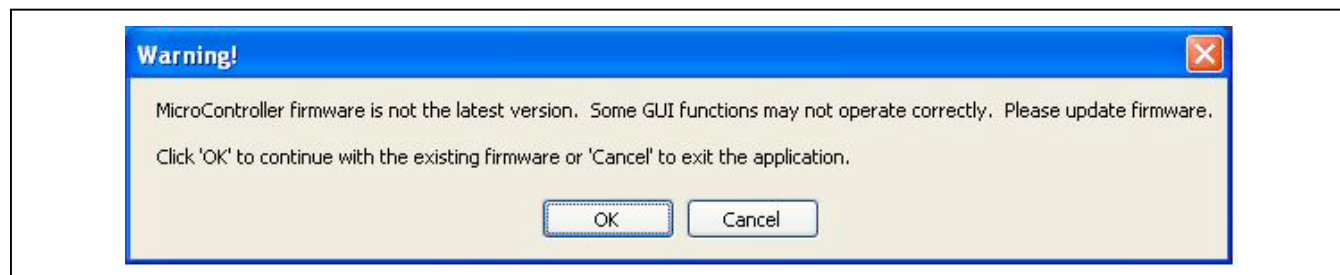

Figure 1. MAXSerDesEV-N EV Kit Software: Warning! (Update Firmware)
- 13) In case a more recent firmware than the firmware currently in the microcontroller is available, a warning will be displayed at GUI startup (Figure 1), informing the user that a new version of the firmware is available. You can continue operating the EV kit with the current firmware, or update it. To update the firmware, follow the instructions in **C:\Program Files\Maxim Integrated\MAXSerDesEV-N\Firmware Update\Updating MAXSerDesEV-N firmware.pdf**.